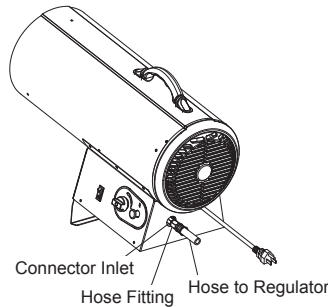

FIGURE 1
2. Connect hose to heater inlet. (See Figure 1). Tighten firmly using a wrench. You must use the regulator supplied with heater.